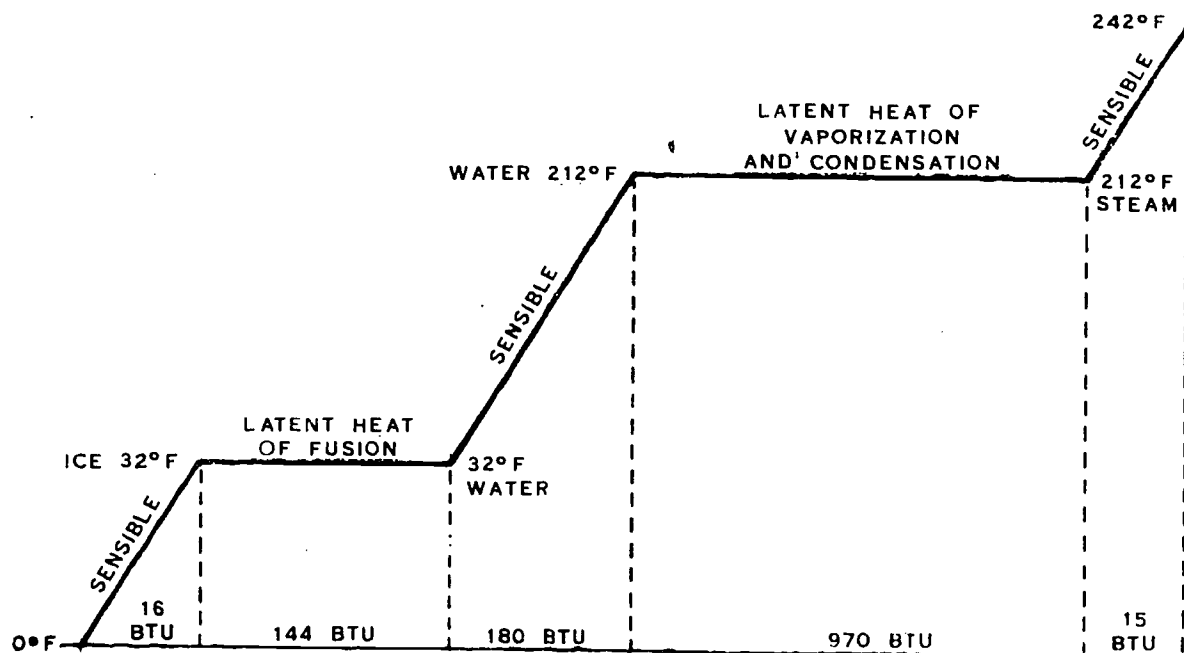

Figure 59. Sensible and Latent Heat
1. What is the number of BTUs needed to change 2 pounds of water at 212°F to steam at 212° F? (See Figure 59.)